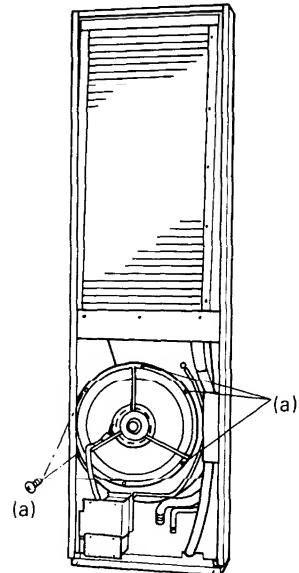

Fig. 4
- (3) Unfasten six screws (a) around the nozzle to pull the fan and fan motor together out of the unit. (See Figure 4.)